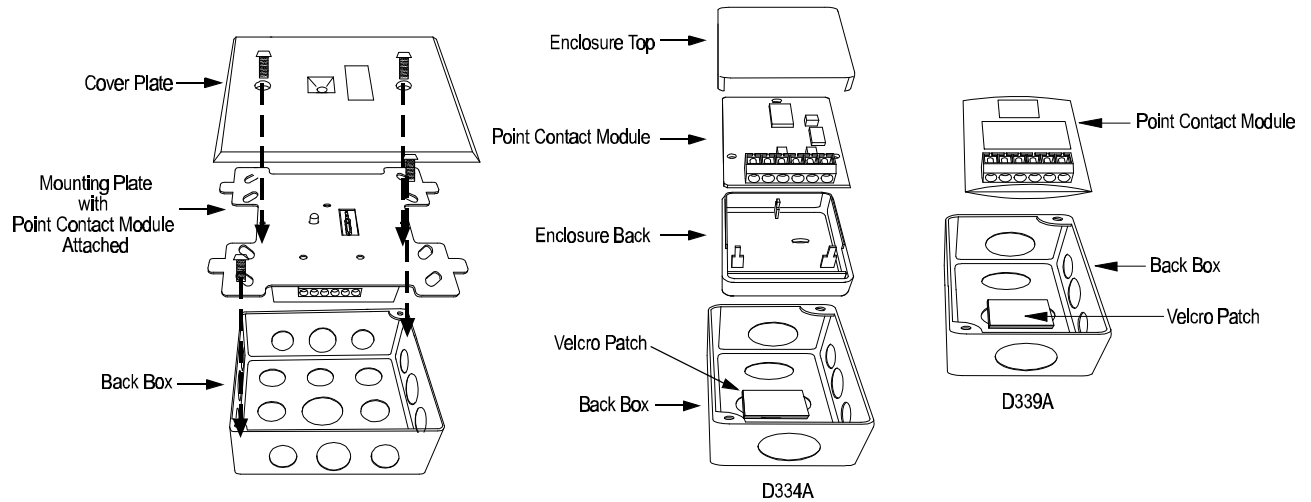
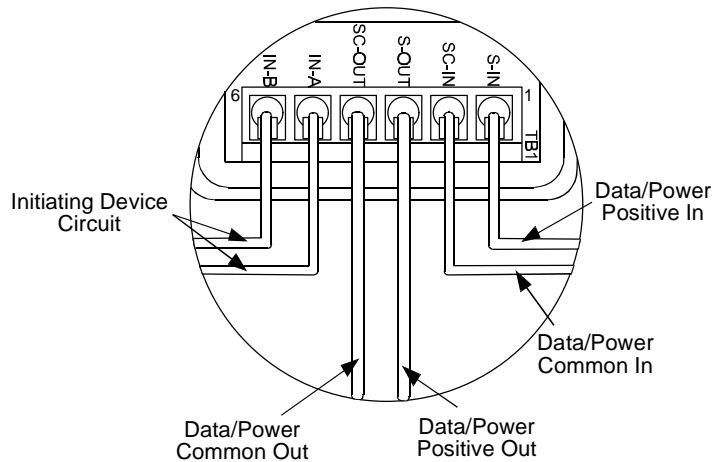

Figure 8: Point Contact Module Installation
Figure 9: D334A Wiring
- Connect the module to the FACP and to the initiating device as shown in Figure 9. Set the module in the enclosure back and snap the enclosure top closed over it. Attach the enclosure to the Velcro patch in the back. See Figure 8 for more details. Install the initiating device.
- The D339A can mount in any single gang back box, and it is part of the D325A Manual Fire Alarm Pull Box. The D339A attaches to the back box with a Velcro patch. See Figure 8 for back box installation details.